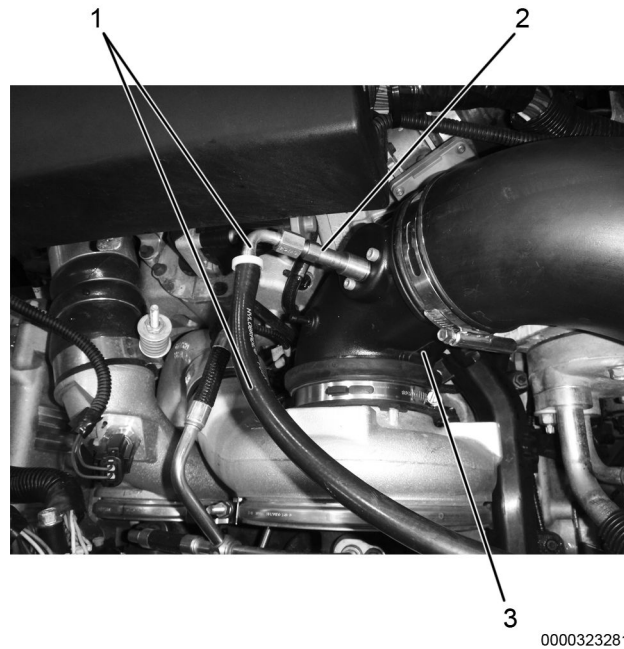

Figure 11. Injector Assembly.
18. Install injector assembly (Figure 11, Item 2) onto turbo inlet adapter (Figure 11, Item 3). Tighten injector assembly securely.
19. Install cleaning solution supply line (Figure 11, Item 1) onto injector. Tighten supply line securely.
3. Remove cleaning solution supply line (Figure 11, Item 1) from injector.
4. Remove injector assembly (Figure 11, Item 2) from turbo inlet adapter (Figure 11, Item 3).